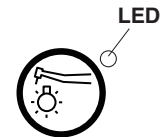

Fig.3-7 Light pack Switch
④ The Light Pack Switch (Optional)(Fig.3-7) **E**